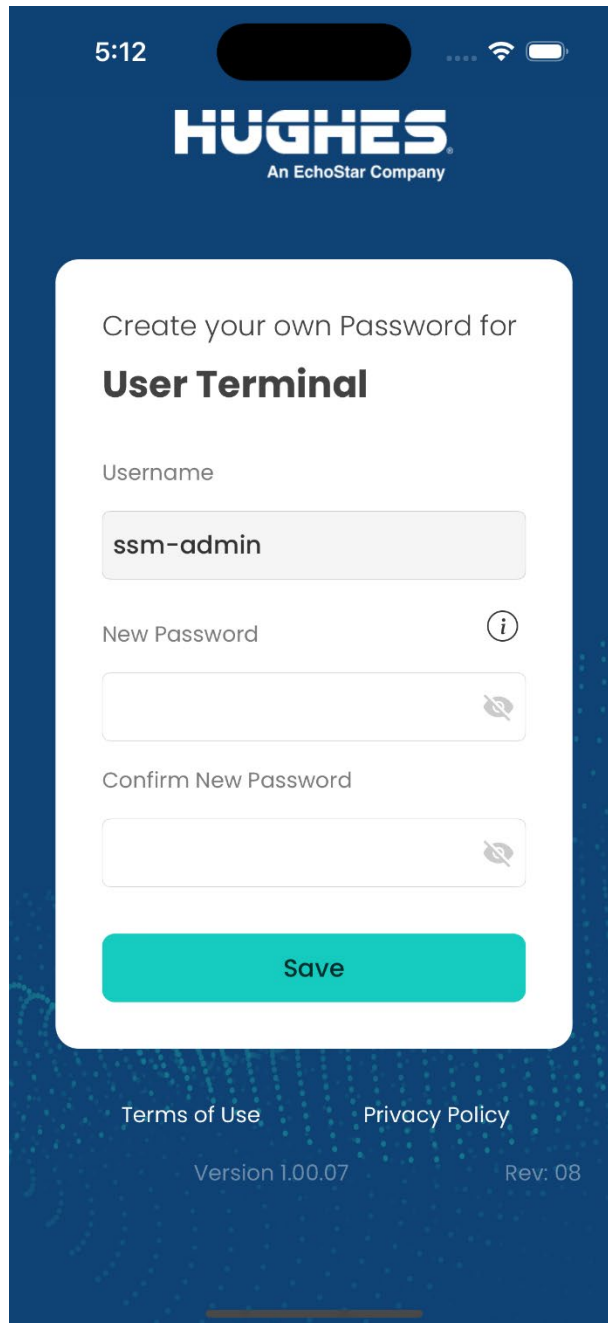

Figure 83: Create user terminal local management password
4. The password for the user terminal's Local User Interface (LUI) and Hughes LEO app login are the same. This password will not be set in the Hughes factory. For a first time install of a user terminal, you will be prompted to set the password when you click **Start Install**. When the screen shown in Figure 83 is displayed, enter the password and confirm the password for the user terminal local management and click **Save** to commit the password to be stored on the user terminal.